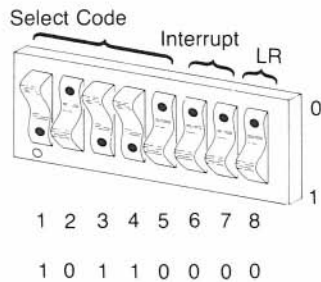

Figure 5-18. HP 98695A 3270 Coax Interface Switches
- Find the group of switches shown in Figure 5-18. Switches 1 thru 5 in this group determine the select code.
- a. The remaining switches should all be set to 0 as shown in Figure 5-18.